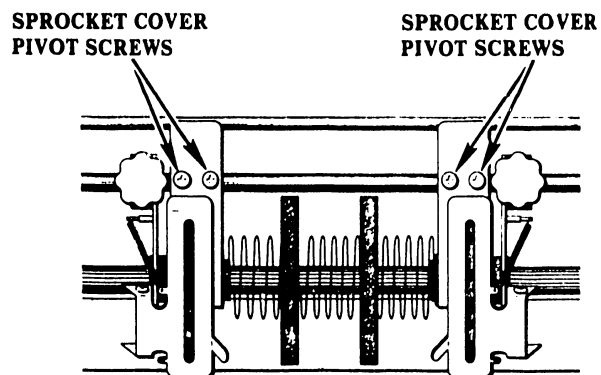

FIGURE 6-30 SPROCKET COVER
- 2) Adjust the sprocket-cover pivot screws (2) to center teeth (see Figure 6-30). This must be done to both of the paper-guide assembly covers. The pivot screws act as eccentrics to center the cover.